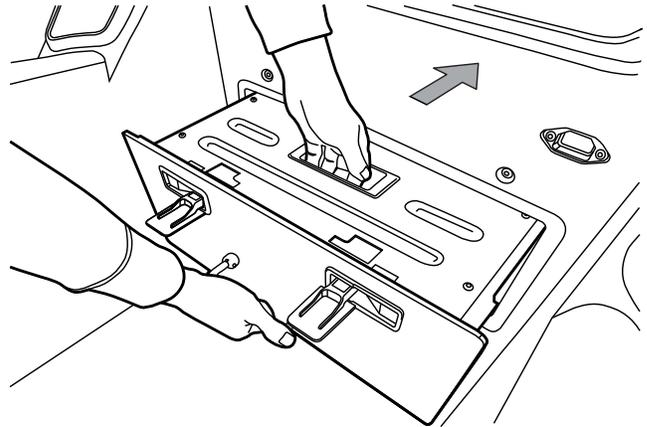

Figure 3: Slide the Battery Module into the SE-3 Patroller
2. Make sure the latches are configured as in **Figure 3**.